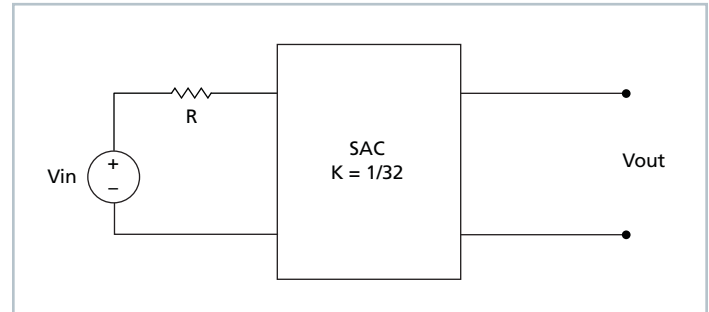

Figure 2 — K = 1/32 Sine Amplitude Converter™
The use of DC voltage transformation provides additional interesting attributes. Assuming for the moment that ROUT = 0 Ω and IQ = 0 A, Eq. (3) now becomes Eq. (1) and is essentially load independent. A resistor R is now placed in series with VIN as shown in Figure 2.
Assuming that R = 1 Ω, the effective R as seen from the secondary side is 0.98 mΩ, with K = 1/32 as shown in Figure 2.